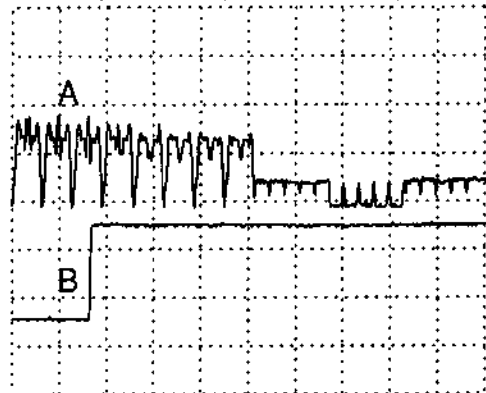

Fig. 1 Gap position
- Set 3112 so that the positive slope of the HP1 signal is $416 \mu\text{s} \pm 32 \mu\text{s}$ ($6,5 \pm 1/2$ lines) in front of the front slope of the frame impulse (see Fig. 1)